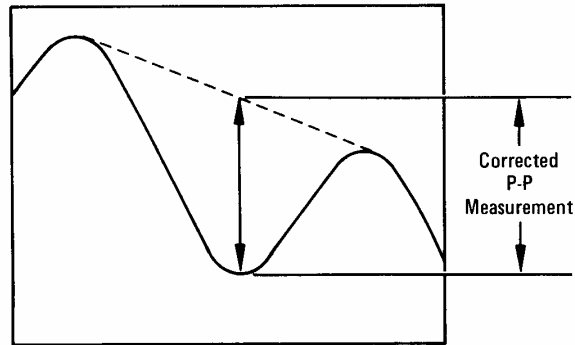
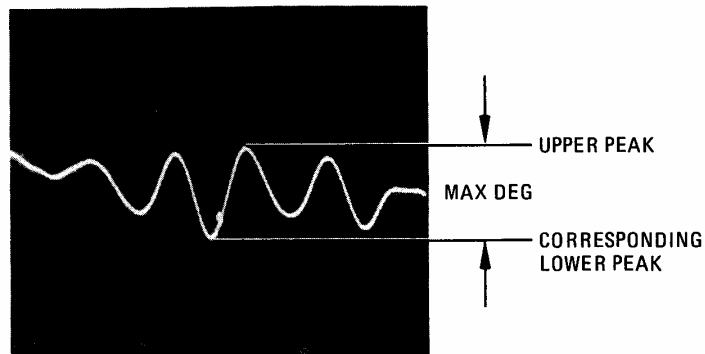

Figure 4-9. Slope Peak-to-Peak Measurement
Figure 4-10. Test Port Open/Short Ratio Phase, >2 MHz
If peak-to-peak measurement is made in an area where there is some slope, a corrected reading can be obtained by connecting two adjacent upper peaks with a dotted line. Extend a vertical line up from the lower peak until it intersects the dotted line. This constructed vertical line is the averaged or corrected peak-to-peak measurement to be used (Figure 4-9). Avoid making peak-to-peak measurements at extreme slope changes.
- (1) Set 8505A Signal Processor Channel 1 MODE switch to OFF and Channel 2 MODE switch to PHASE.
- (2) On 8505A Signal Processor channel 2 press DISPLAY MKR then ZRO pushbuttons.
- (3) On 8505A Signal Processor Electrical Length, press LENGTH pushbuttons and adjust VERNIER A control to display a horizontal trace on the CRT. Set Channel 2 SCALE/DIV switch to 5 DEG. Press DISPLAY MKR then ZRO pushbuttons and readjust LENGTH and VERNIER A control to position average slope of trace parallel to horizontal graticule lines.
- (4) On 8505A Frequency Control, set MARKER 1 to upper peak where maximum separation between upper and lower peaks occur.
- (5) On 8505A Signal Processor Channel 1, press DISPLAY MKR then ZRO pushbuttons to place marker on reference line and to zero digital readout.
- (6) Set MARKER 1 to corresponding lower peak (see Figure 4-10) and record peak-to-peak variation indicated on Channel 1 MKR digital readout. (See NOTE preceding Figure 4-9).